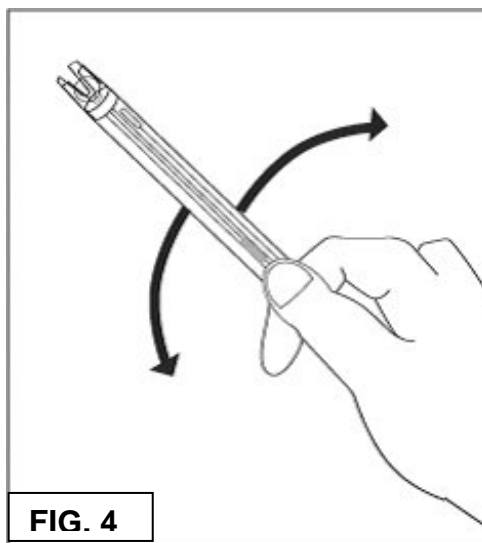

FIG. 4
4. After exposure to sample, buffer or rinse solution, shake the electrode with a snap motion to remove residual drops of solution. (See FIG. 4, next page). This action will minimize contamination from carryover.